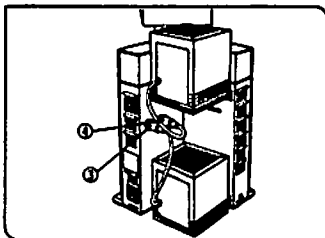

Fig. 13
2. Insert the lamp housing collector unit into the lamp port until it touches the lamp housing bracket on the back of the base (upper part), then tighten the clamping screw ②. (Fig. 13)
3. Insert the cord plug from the transmitted light lamp housing securely into the power outlet ③. Insert the cord plug from the reflected light lamp housing securely into the power outlet ④. (Fig. 13)